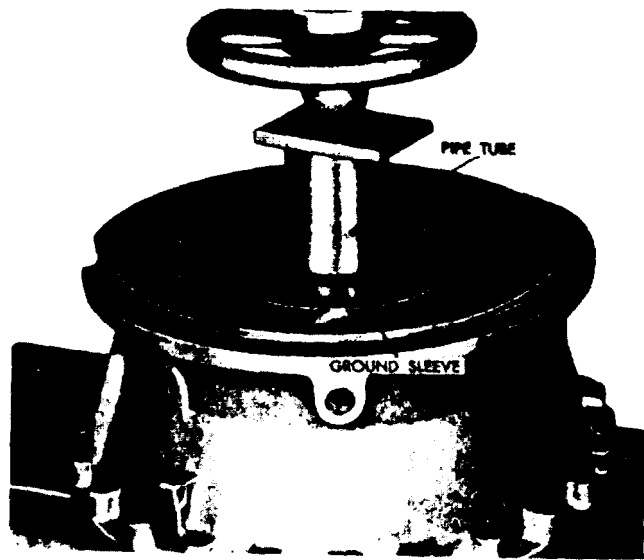

Figure 4C-24. Removing Ground Sleeve from Housing
4. Install the freewheel rollers and springs into the stator cam (see Figure 4C-25 on page 4C-22). Rollers and springs may be retained with a heavy coating of oil soluble grease.